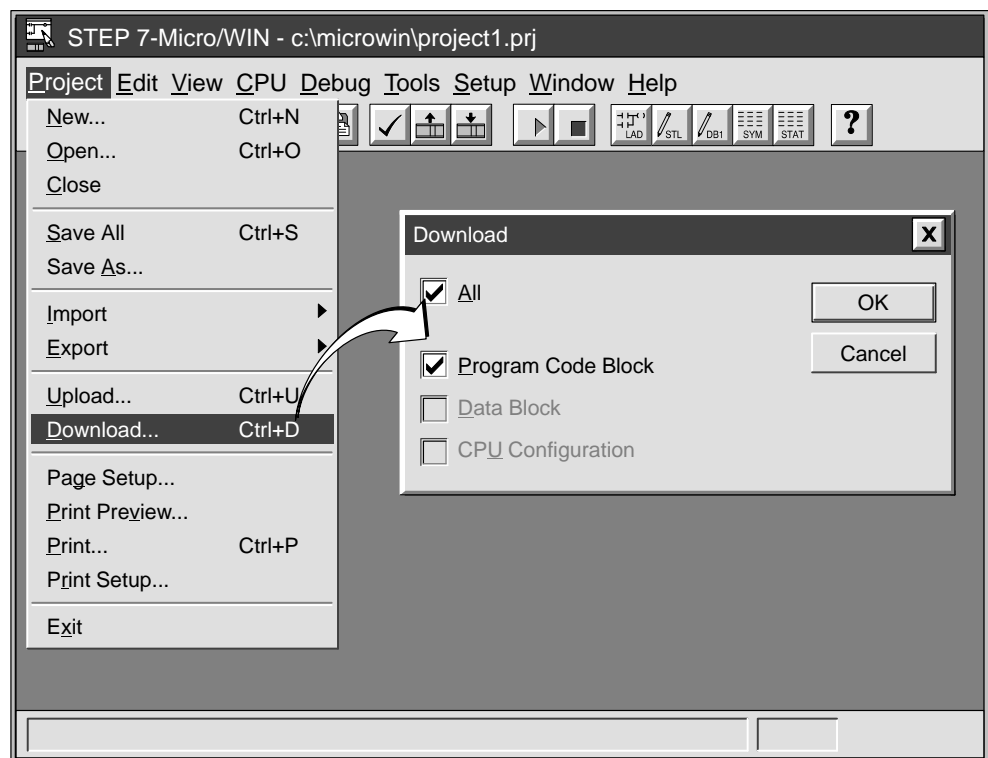

Figure 2-8 Downloading Project Components to the CPU
The Download dialog box that appears allows you to specify the project components you want to download, as shown in Figure 2-8. Select only "Program Code Block" for the PDS 210: the data block and the CPU configuration are not used by the CPU 210.
1. If the program has not already been downloaded to the PDS 210, use the menu command **Project ► Download...** to download the program. (See Figure 2-8.)